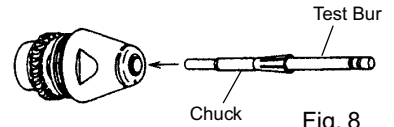

Fig. 8
(2) Installation of the New Chuck
- Insert a dummy bur into a new chuck and push it into the rotor shaft. (Fig.8)